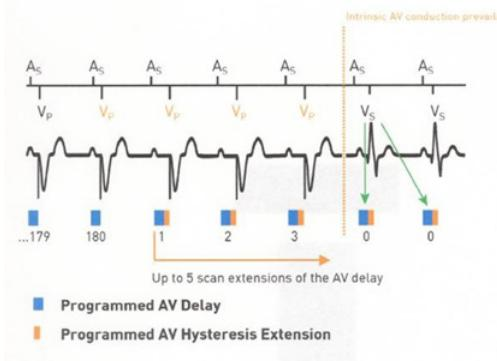

Figure 158: AV Scan Hysteresis
- Each Vs event will reset the scan counter and initiate the extended AV delay (see green arrow in Figure 158).